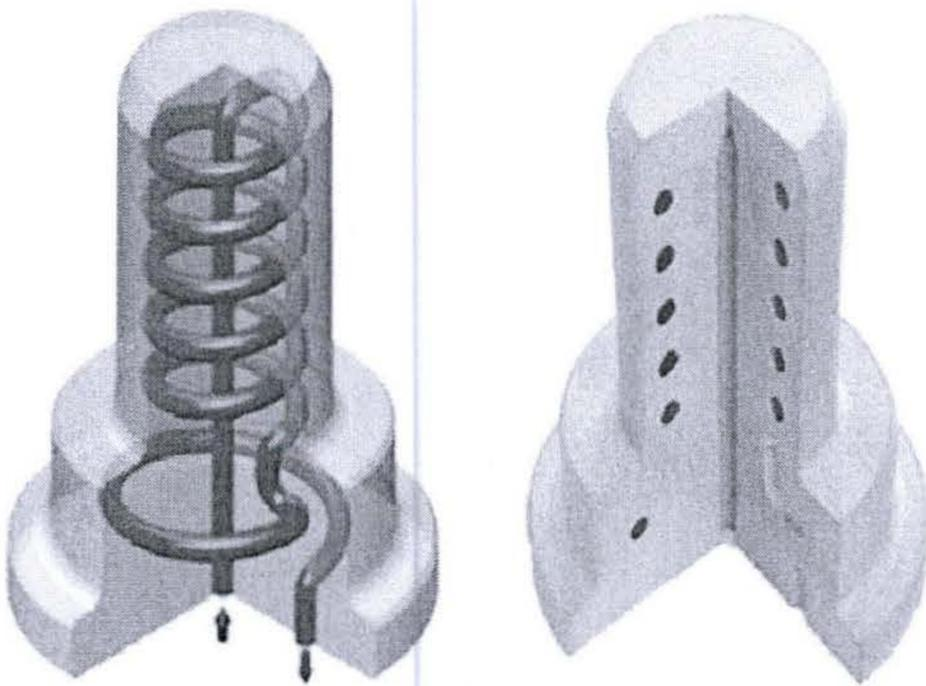

Figure Q4: Large injection moulding tool with conformal cooling channel
- (c) For the part shown in Figure Q4, suggest and justify a suitable manufacturing process chain. [11]